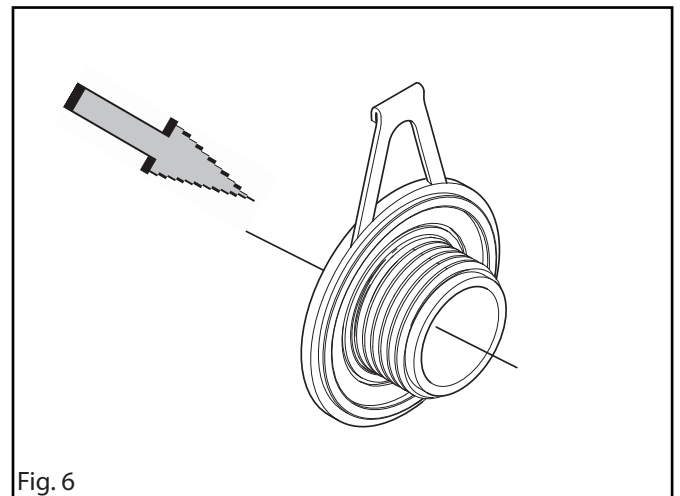

Fig. 6
2. Screw the clutch hub onto the crankshaft and tighten with the clutch tool. Note - left-hand thread. See fig. 6.
4. The oil pump drive worm gear is undamaged. See fig. 6.
In part throttle mode (fig. 6) the throttle butterfly (H) is partially open. Fuel is supplied through the diffuser jets (F and G).